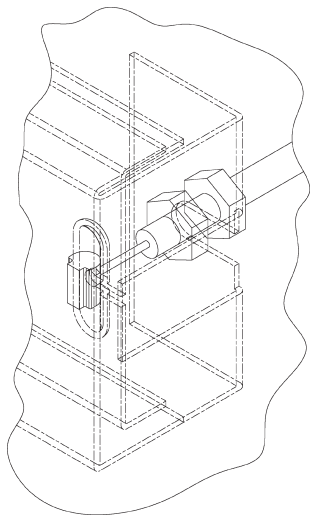

FIG. 5
1. Assemble the operating cable to the fountain bracket. (Fountain should be mounted to exterior wall). The adjustment nuts should be in the middle of threaded area on the operating cable. See Figure 5. Create a loop in the cable and thread the free end of the cable through the wall into the freeze resistant box.